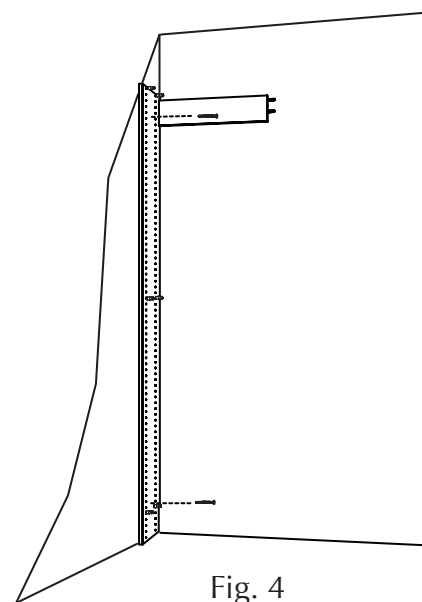

Fig. 4
4. Stand panel/cleat upright and place into position in closet as shown in Fig. 4. Secure panel to one sidewall using appropriate wall hardware (see "Working with Different Wall Types"). Secure wall hardware at top and bottom of panel (at about the 7th or 8th hole locations) preferably at a stud location.